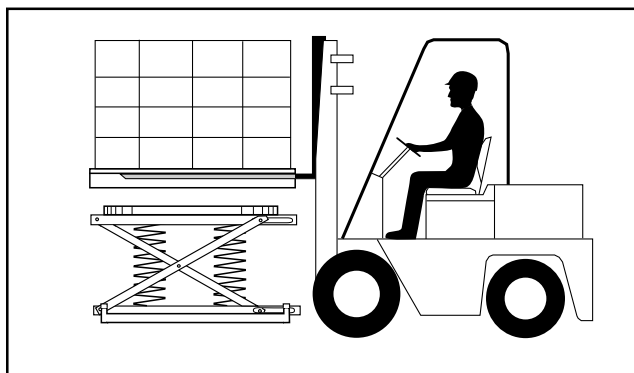

Fig. 8
1. Insert the forks fully into the pallet, and lift the pallet straight up and clear of the top of the unit. See Fig. 8.